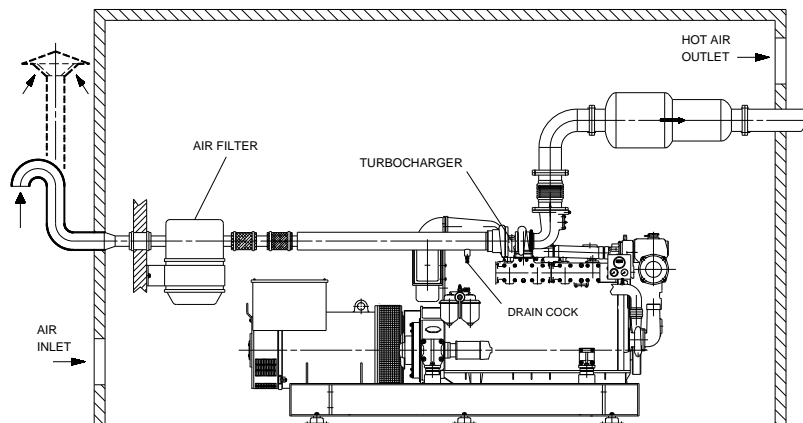

Fig 4
- Fit a drain cock at the lowest point of the air intake duct. This point is generally as near as possible to the turbochargers. It is important and necessary that, if the air intake duct were over hot parts it would be well isolated. (See fig.4)